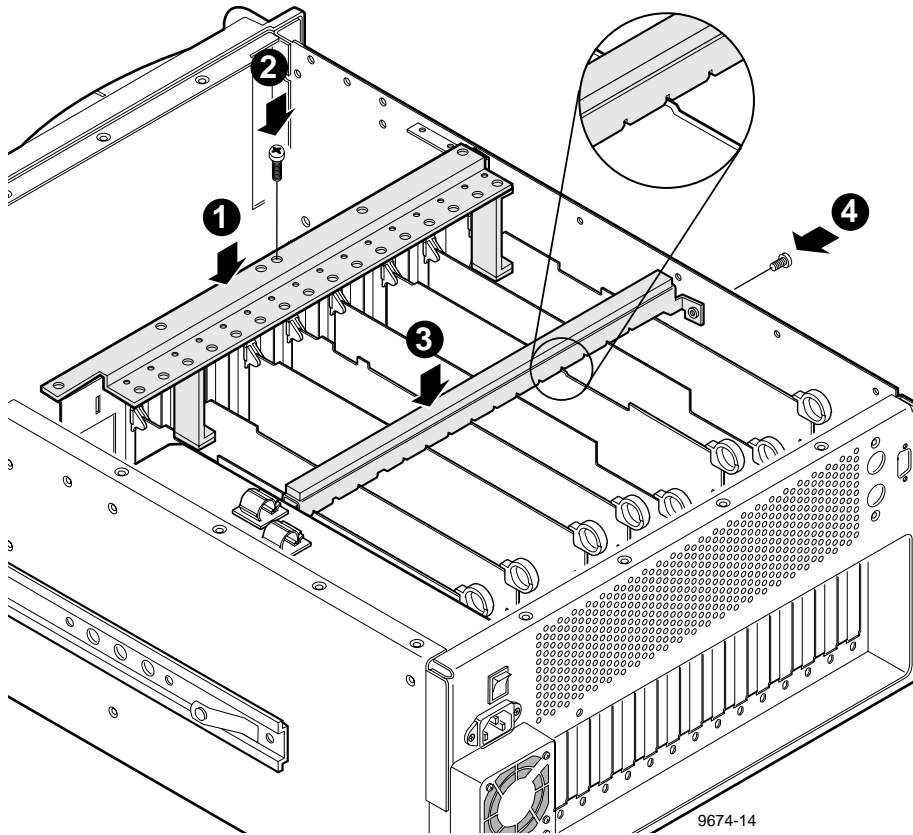

Figure 23. Board Retainer Bracket installation
To re-install the short board retainer bracket, refer to Figure 23 and proceed as follows:
To reinstall the full size board retainer bracket refer to Figure 23 and proceed as follows:
1. Place bracket ③ over the boards.
2. Align the full size boards to the correct bracket slots (see insert in Figure 23) and carefully seat the bracket onto the boards.
3. Use the Torx tool with the T10 bit to replace bracket retaining screw ④ at the side of the Profile chassis.